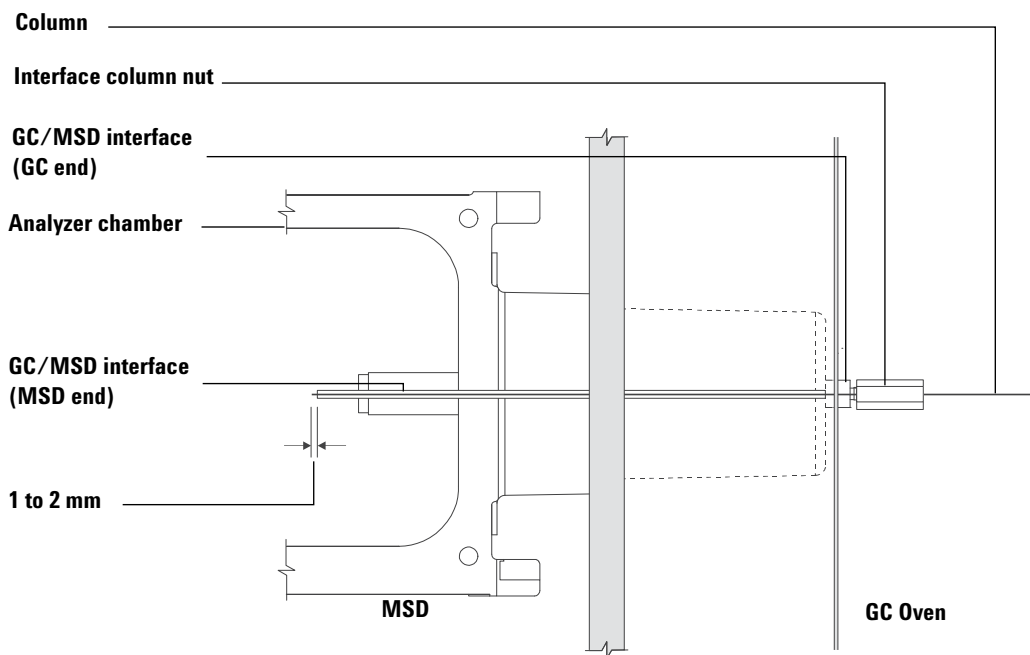

Figure 11 MSD - GC column connection
- 10** Adjust the column so that it protrudes 1 to 2 mm into the analyzer chamber past the end of the GC/MSD interface, and hand tighten the nut. See Figure 11.